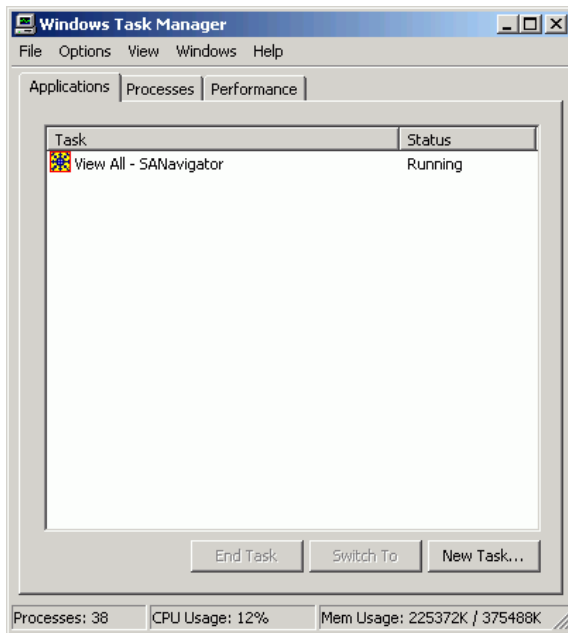

Figure 3-15 Windows Task Manager Dialog Box (Applications Page)
- b. Click *Task Manager*. The *Windows Task Manager* dialog box displays with the *Applications* page open by default (Figure 3-15).